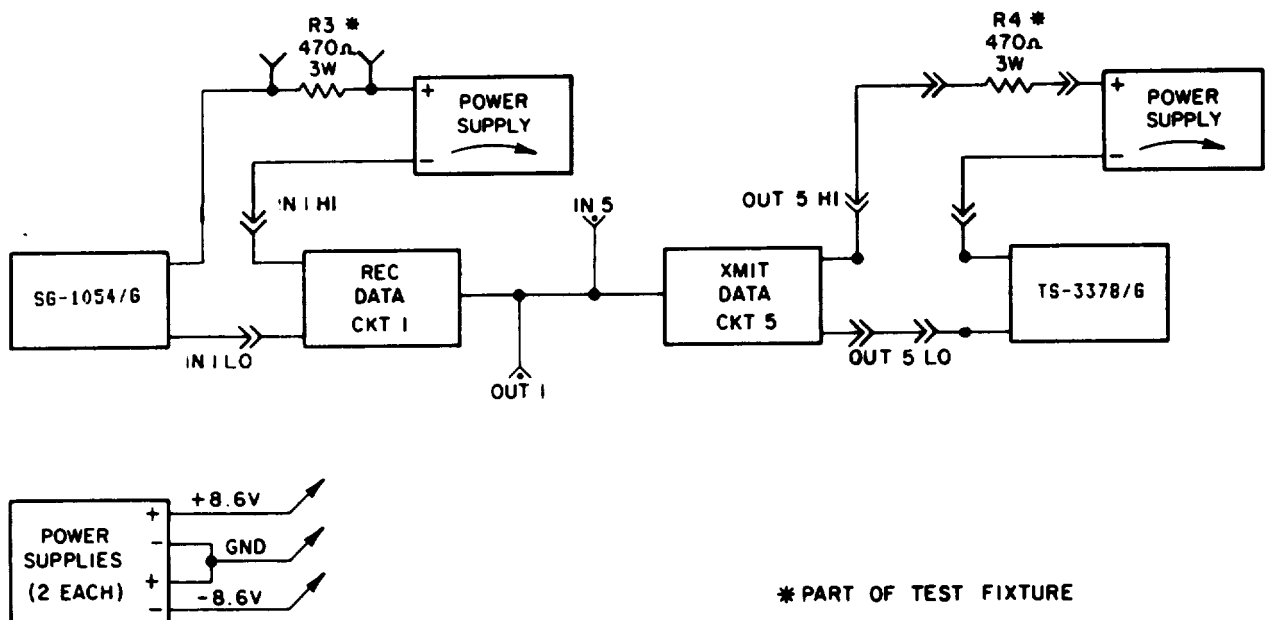

Figure 6-16. INTERFACE 20 mA and 60 mA FUNCTIONAL TEST LAYOUT
(4) 20 mA AND 60 mA DATA TEST PROCEDURES. (See figure 6-16.)